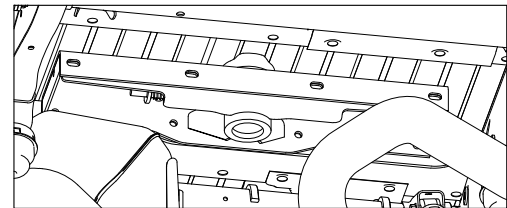

Figure B6: View of truck bed looking towards front of truck.
2. **Stage center section.** Raise the center section into place as shown in Figure B6, staging it for installation. When staged correctly, the receiver socket will be "offset" toward the rear of the truck. It may be helpful to pull down on the exhaust while positioning to allow extra room for maneuvering it into position.